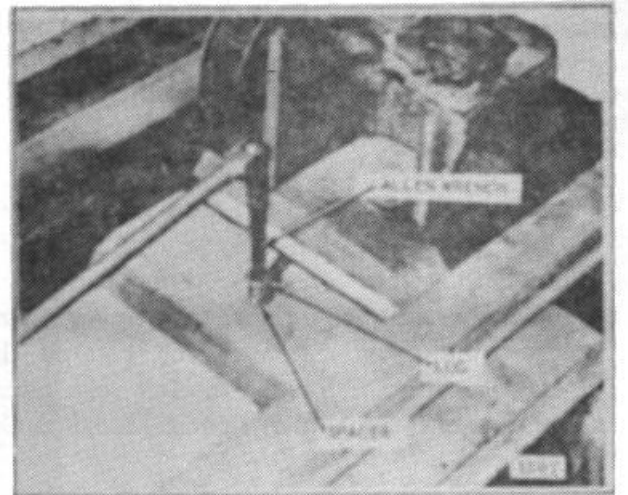

**Figure 10.**
6. Rotate the front latch clockwise, as indicated by the arrows in Figure 10, and at the same time, pull the inner upright out of the top of the outer until the lug on the outer can be removed. Remove the lug and spacer. (Fig. 11)